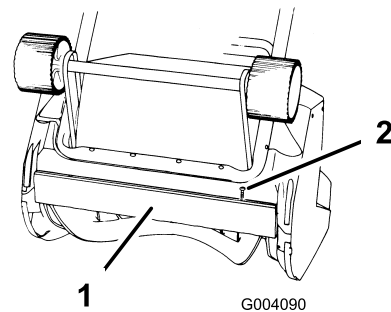

Figure 12
The scraper is located at the bottom of the rotor housing as shown in Figure 12.
1. Remove the 2 screws that secure the scraper to the snowthrower (Figure 12).